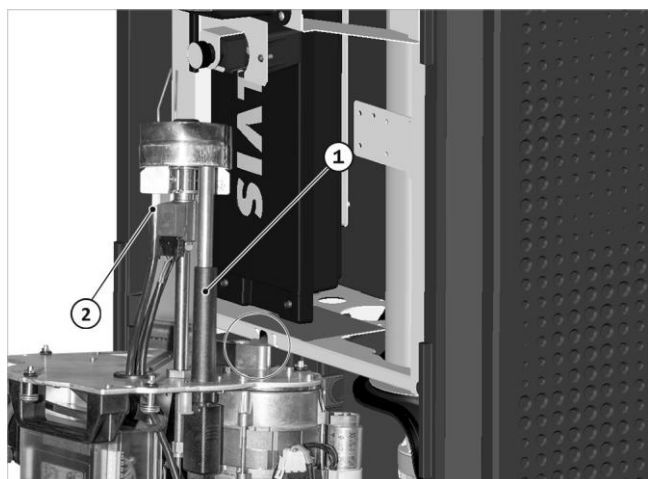

Fig. 146: Attaching the burner to the console
1. Remove the viewing sleeve; see → fig. 146 (1).